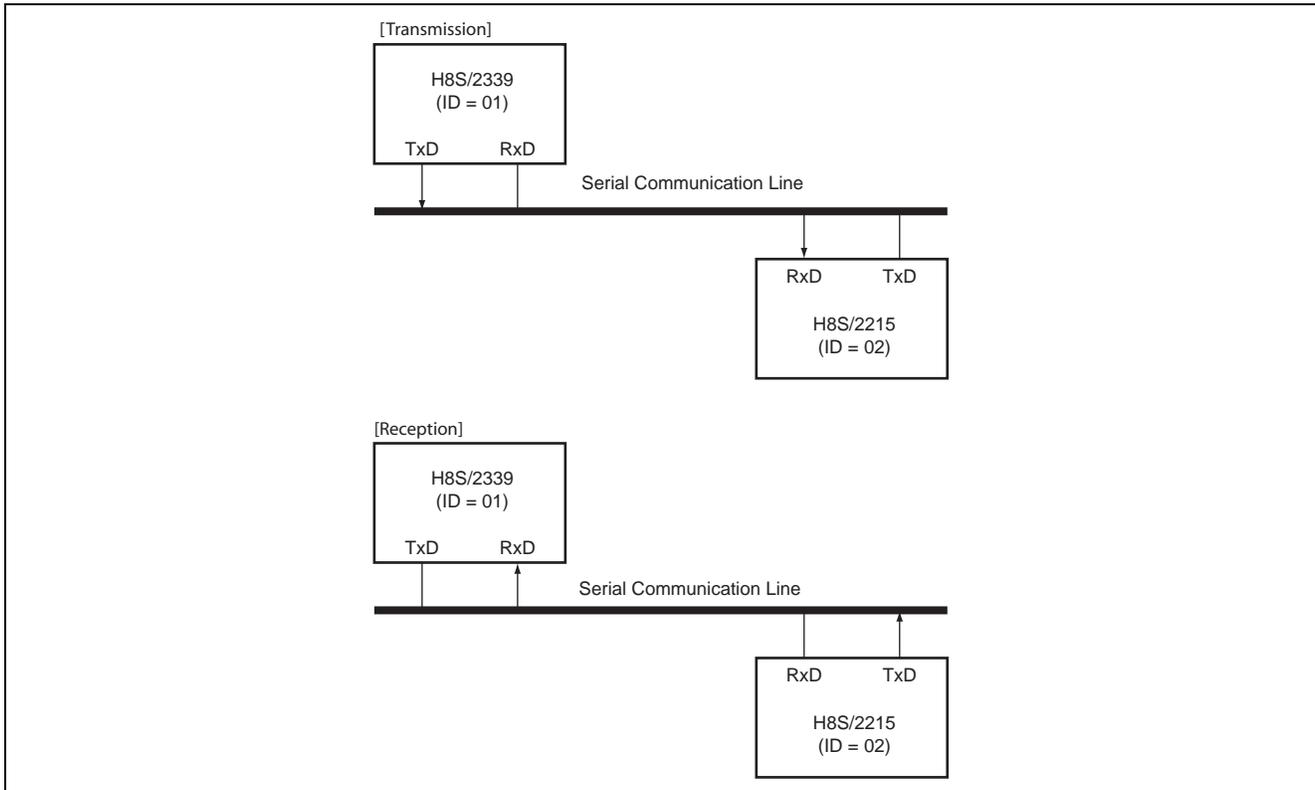

Figure 1 Block Diagram of Asynchronous SCI Using Multiprocessor Function
1. As shown in figure 1, this sample task transmits and receives data between an H8S/2339 and an H8S/2215 units, sharing the serial communication line.